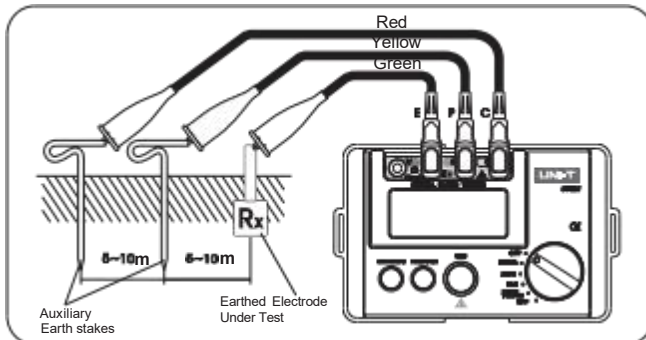

Figure2
- place 2 groundstakes deep into the soil. Earth electrode(E), probe(P) and auxiliary earth (C) should be in a straight line and 5-10m apart from each other. See Figure 2 for the connection.